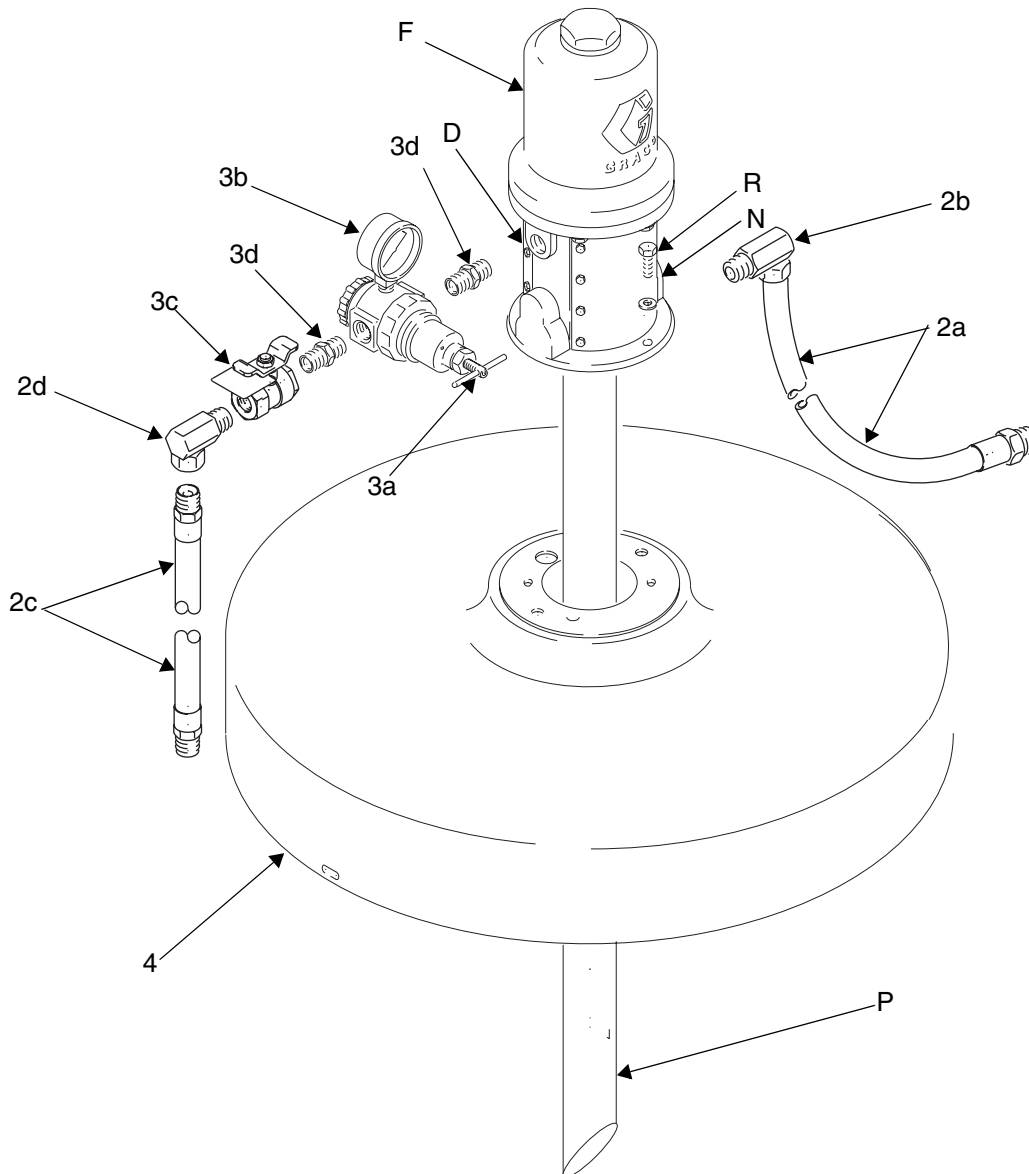

FIG. 6
1. For 246906 cut the extension tube (P) at a 45° angle to a length appropriate for the size of the drum. When installed, the bottom of the angle should be about 1" (25 mm) from the bottom of the drum. For 225642 and 225782 the down tube is sized for the container.
2. Set the cover (4) on a 55-gallon (208 liter) drum. Install the pump (F) on the cover with the screws (R) supplied. See FIG. 6
3. Assemble the air regulator kit (items 3a-3d) to the pump air inlet (D) as shown. Use thread sealant and tighten all parts securely.
5. Apply thread sealant to the male threads of the 1/2 npt swivel union (2b). Screw the union into the pump fluid outlet (N).